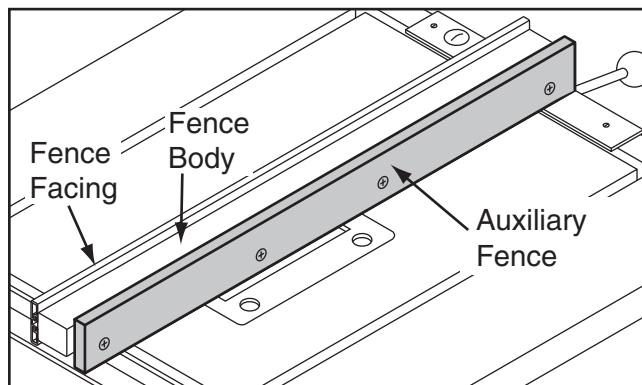

Figure 87. Auxiliary fence.
6. Thread the flat head screws through the auxiliary fence and into the hex nuts and flat washers inside the standard fence body, and tighten securely, as shown in **Figure 87**.